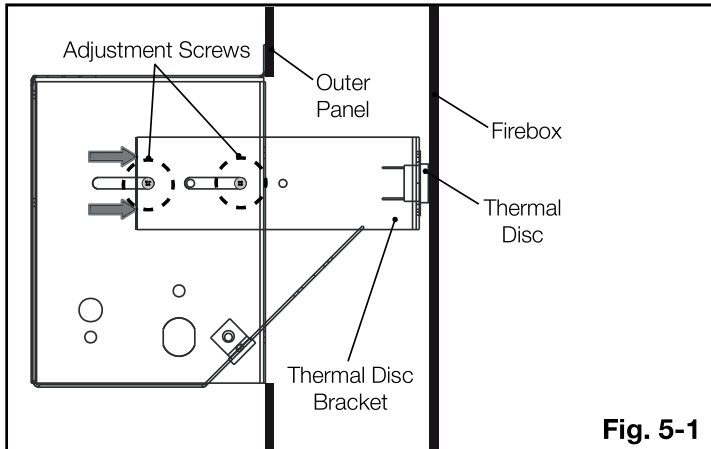

Fig. 5-1
1. Ensure the thermal disc bracket is in the correct position (**Fig. 5-1**).
5. Reach between the outer panel and the firebox, then slide the thermal disc bracket until the thermal disc is touching the rear of the firebox. (**Fig. 5-1**).